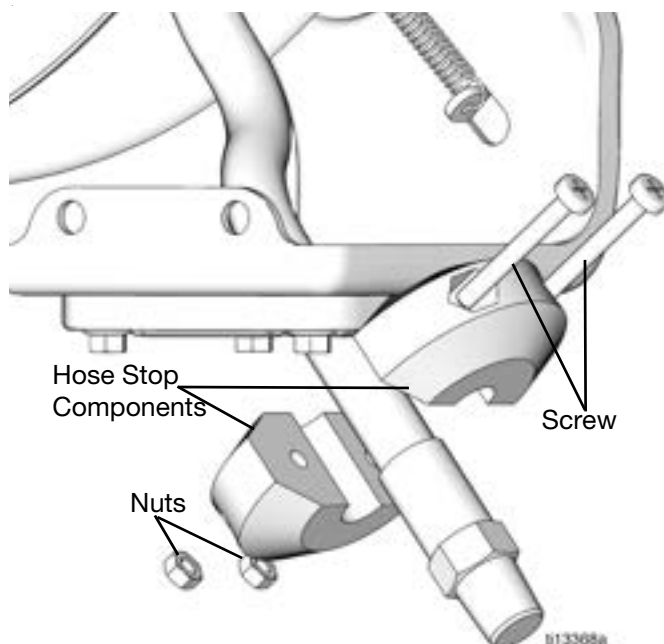

FIG. 25
4. Remove the hose stop from the hose end and put all of the parts in a secure place for re-installation on the new hose (FIG. 25).
- a. Loosen and remove screws and nuts (FIG. 25).
- b. Separate the two hose stop components to remove from the end of the hose (FIG. 25).
7. Insert screws through the hose stop and hand tighten the nuts to hold the hose stop in place (FIG. 25).